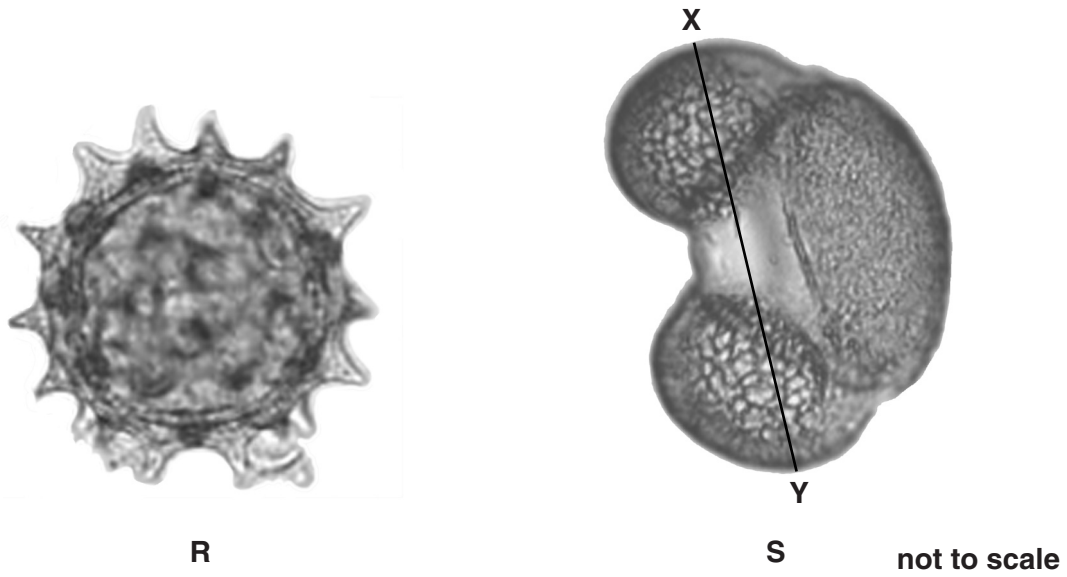

Fig. 2.1
2 Fig. 2.1. shows photomicrographs of two types of pollen grain, **R** and **S**.
- (ii) Measure the length of the line **XY** on Fig. 2.1. Include the unit.
Draw the line **XY** on your drawing, in the same position as on Fig. 2.1.
- (b) (i) State **two** ways, visible in Fig. 2.1, in which pollen grain **R** is different from pollen grain **S**.
- (ii) Describe **one** feature, visible in Fig. 2.1, of pollen grain **R** that helps it to be dispersed.